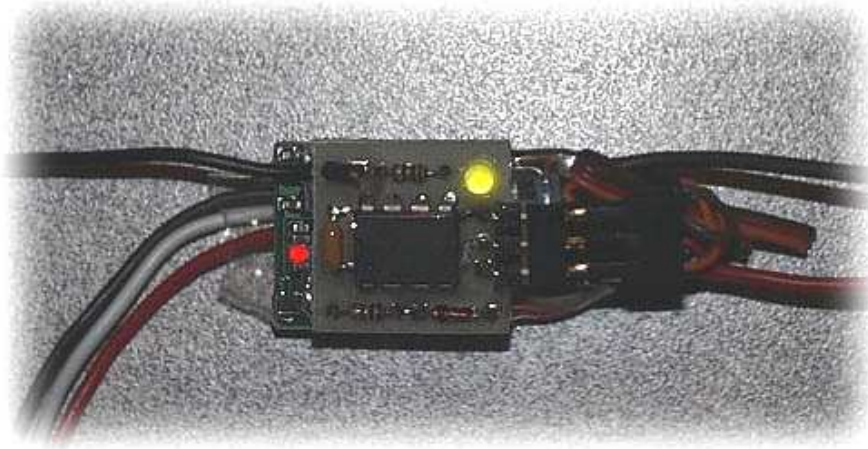

FIGURE 2
4. If desired, the PowerZone may be mounted on the top of the ESC using double-sided foam tape or resilient plastic adhesive. For best ESC ventilation, install it on the side that does not get hot during use. Figure 2 shows a PowerZone installed on top of the popular Castle Creations Phoenix 10 ESC.